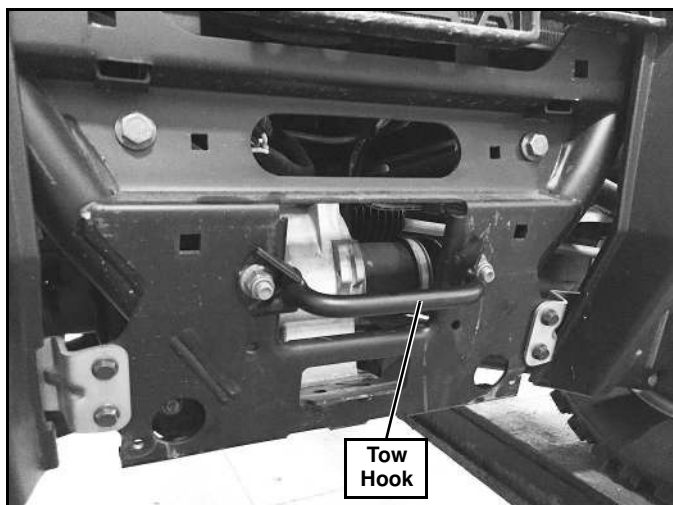

Figure 4
- Remove tow hook and brush guard brackets, if equipped (brush guard brackets not shown in images). (See Figure 4.)